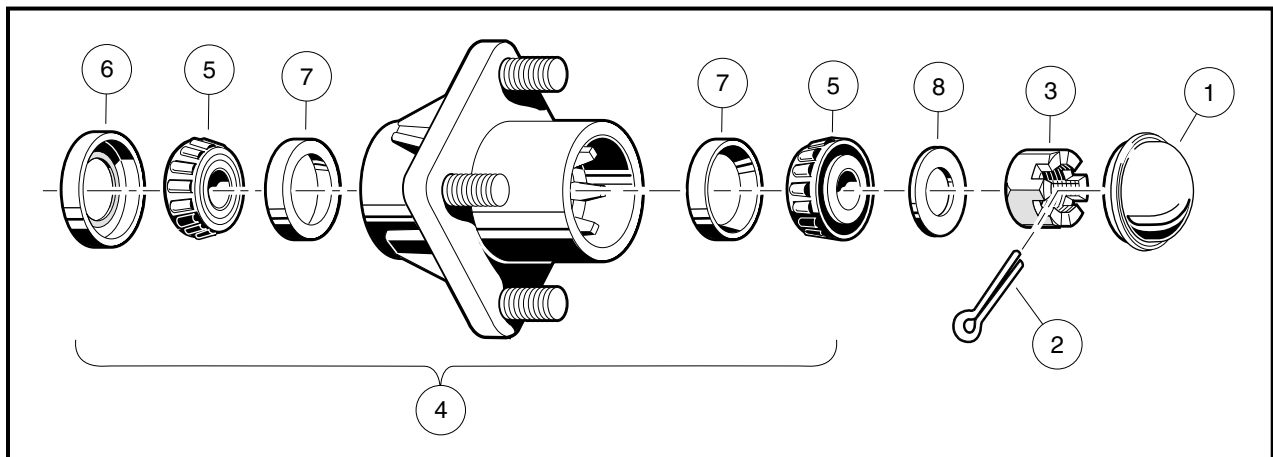

Figure 7-25 Front Wheel Bearings and Hub
2. Using your hands, attempt to rock the wheel and hub assembly back and forth on the spindle. If there is any observable movement of the wheel and hub on the spindle, remove dust cap (1) and cotter pin (2), and then tighten the spindle nut (3) until the bearing (5) fully seats in the bearing race (7).
4. Install a new cotter pin (2). If movement continues, replace the wheel bearings (5) as required (**Figure 7-25, Page 7-24**).
- 2.1. Remove dust cover (1), cotter pin (2), spindle nut (3), and flat washer (8) (**Figure 7-25, Page 7-24**).
1. Pack the wheel bearings (5) and hub cavities, and lubricate cups (7) with wheel bearing grease or chassis lube. Make sure the grease is forced between the rollers (**Figure 7-25, Page 7-24**).
2. If bearing cups (7) were removed, press new ones in squarely against stops in the hub.